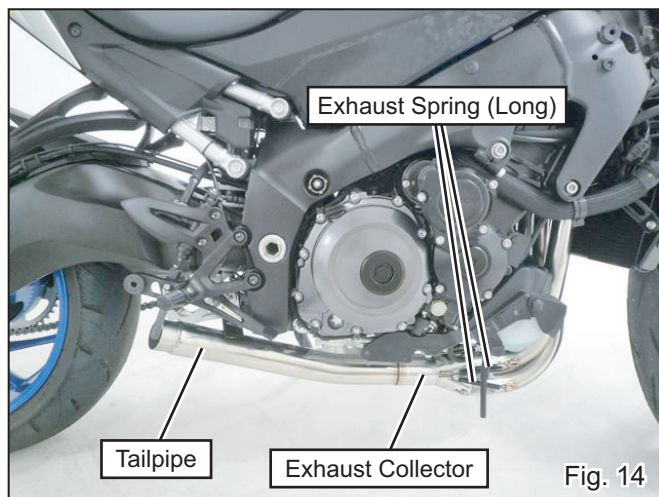

Fig. 14
- 15) Insert Tailpipe to Exhaust Collector and install Exhaust Spring (Long). (See Fig. 14)